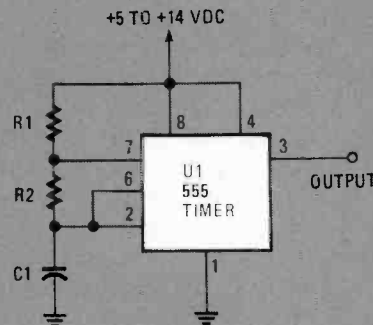

Fig. 1. Here's a 555 timer set up in its standard oscillating configuration. The timing is fairly independent of the supply voltage which is shown as a range.
**Circuit Theory.** Figure 1 is a schematic diagram of the 555-timer's standard *astable* (oscillating) configuration. In that mode of operation, three